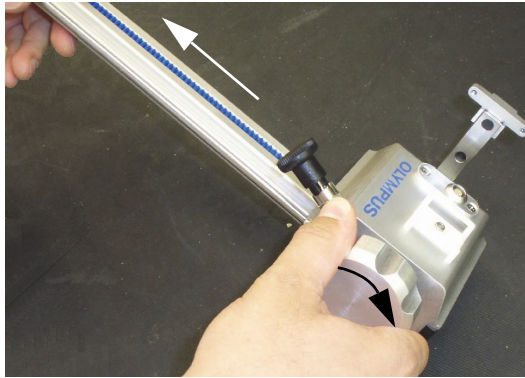

Figure 2-33 Removing the axis
1. Remove the axis by turning the increment knob with one hand while supporting the axis with the other hand (see Figure 2-33 on page 49).